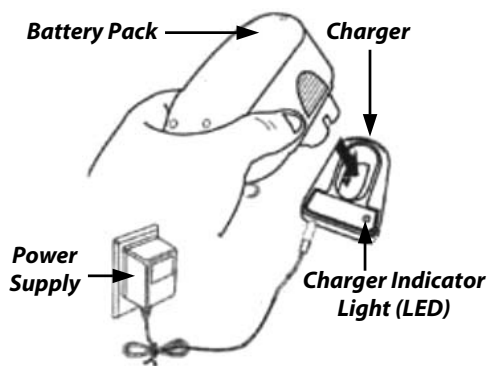

Figure 1
- It may take up to five (5) charging and discharging cycles before your Battery Pack provides maximum life.
- A Battery Pack may last much longer if you charge it as soon as it starts to lose power and not let it completely discharge. Recharge the Battery Pack as soon as the cutting power of your NEUTON Battery-Powered Chain Saw is no longer effective. This would be a good time to have a spare Battery Pack ready to go. Recharge the Battery Pack for five (5) to six (6) hours and remove it from the Charger.
- A good time to consider purchasing a replacement Battery Pack is when the Battery Pack takes longer than six (6) hours to charge.
1. Plug the Charger Power Supply into a standard household electrical outlet (**Figure 1**).
2. Place Battery Pack in the Charger (**Figure 1**). The Battery Pack and Charger have keyways so they will fit together only one way. When properly connected, the RED Charger Indicator Light (LED) will glow (**Figure 1**).